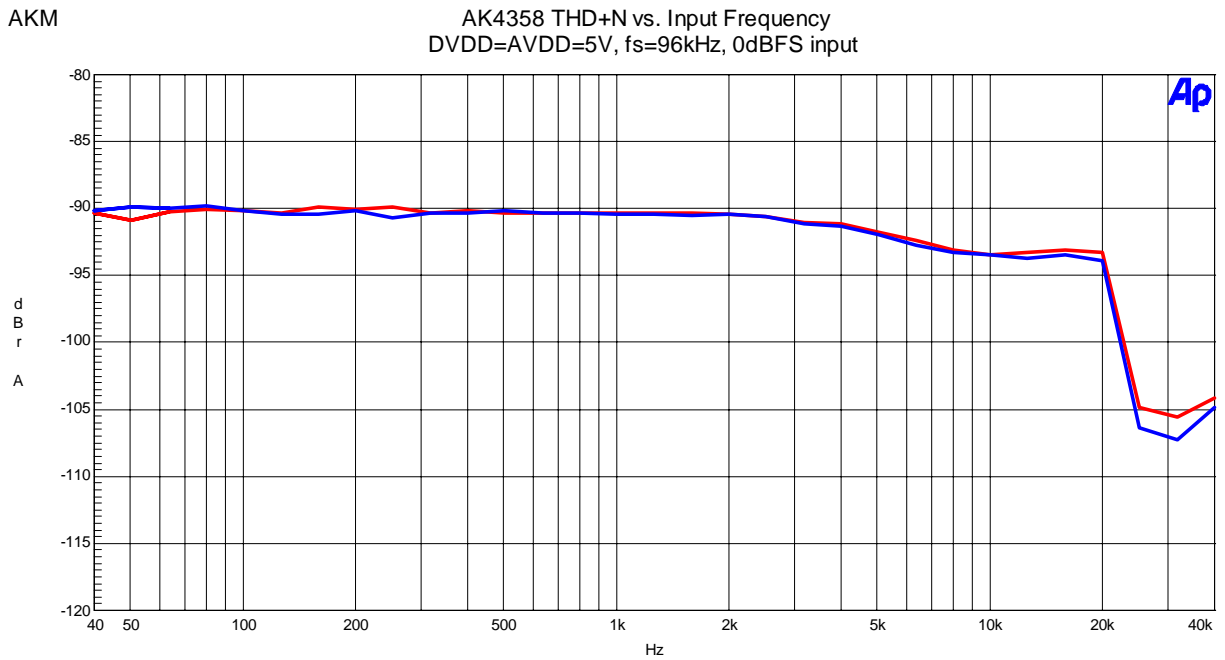

Figure 15. THD+N vs fin (0dBFS input)
- Figure 15. THD+N vs Input Frequency (0dBFS input)